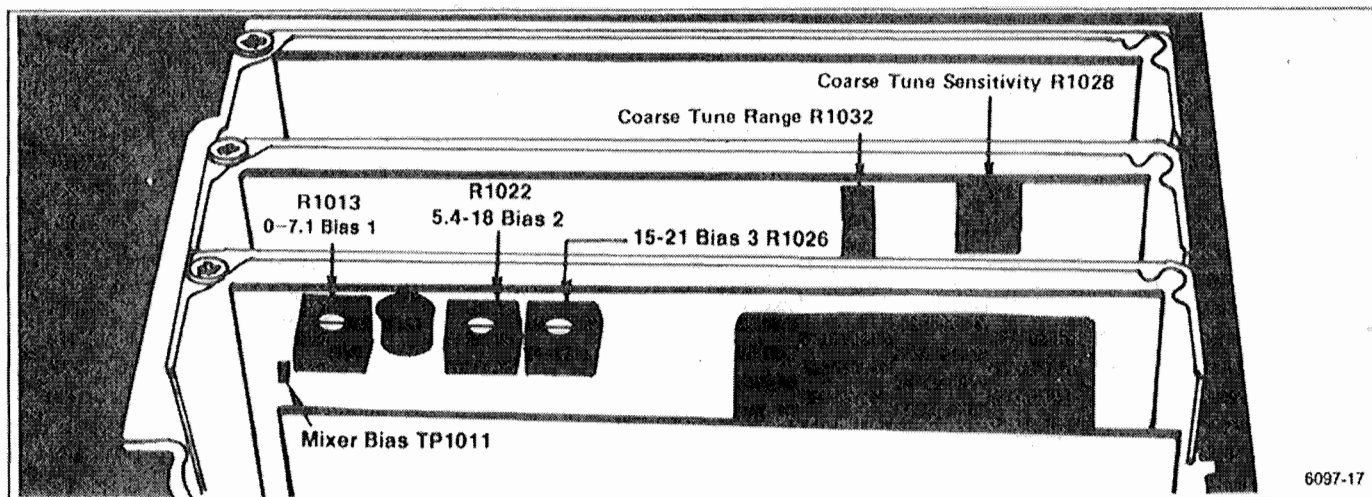

Figure 5-11. 1st LO Driver board adjustment and test point locations.
b. Monitor TP1011 on the 1st LO Driver board (Figure 5-11) with a voltmeter (voltmeter between TP1011 and crt shield).
c. Adjust R1013 (Figure 5-11) for a reading of -1.0 V.
- b. Monitor TP1011 on the 1st LO Driver board (Figure 5-11) with a voltmeter (meter ground at crt shield). Adjust Bias 2 R1022 for a meter reading of -0.25 V.